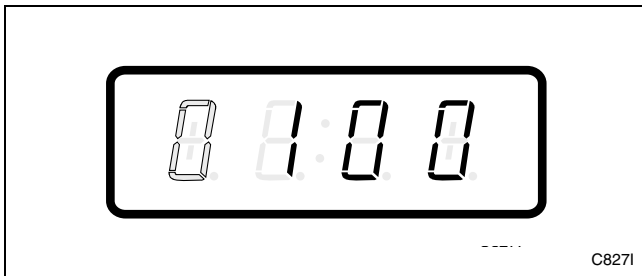

Figure 20
6. Press the START (enter) keypad to enter the fifth digit and display remaining four digits. The active digit will flash one second on and one second off. Refer to *Figure 20*.